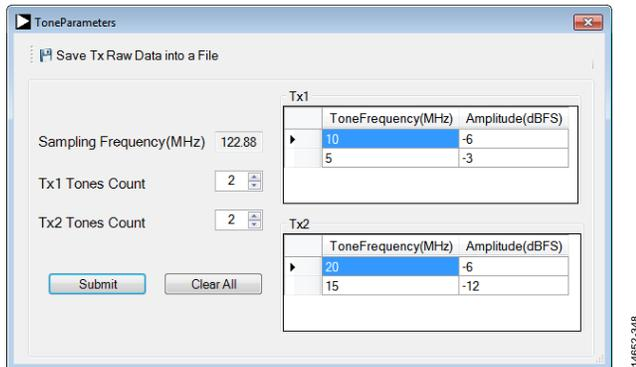

Figure 221. Tx **ToneParameters** Setup Menu
- A single tone or two tones can be generated by the evaluation system using the **Tone Parameters** menu (see Figure 221).